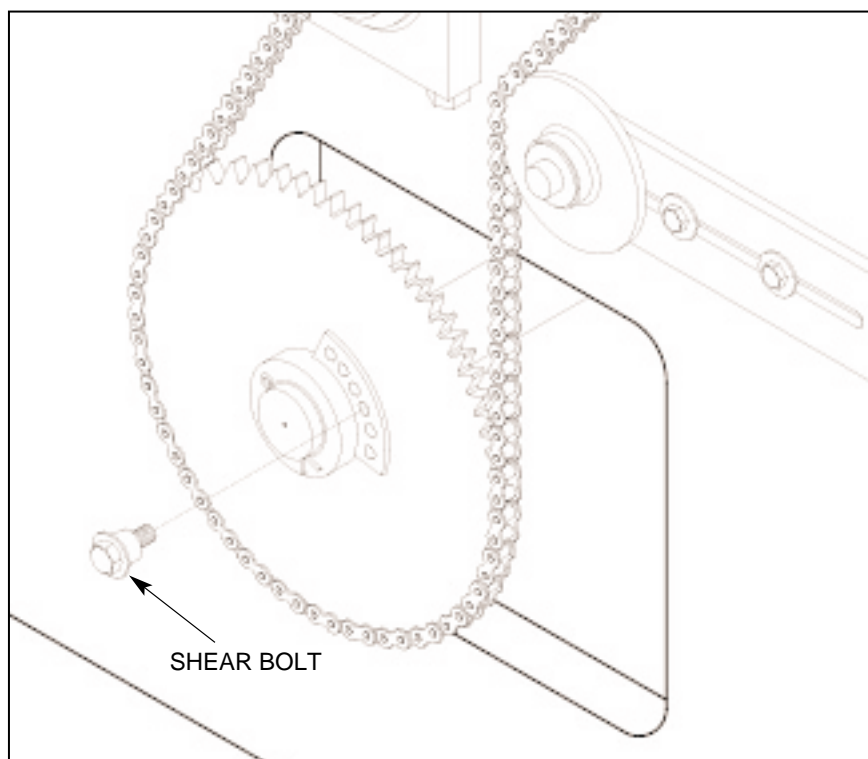

Figure 6.7 SHEAR BOLT ASSEMBLY
6.2.2 Remove shear bolt assembly (see figure 6.7).
- 6.2.15 Mark shear pin and sprocket location (see figure 6.7) on shaft of pallet feeder drive for future use (see section 6.3). Also, mark the shear pin hole.